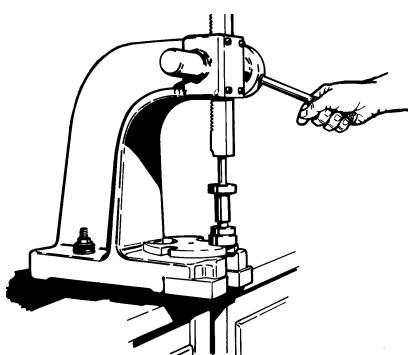

Figure 4-23
1. Using an arbor press, install the bearings on the shaft prior to installing the shaft into the pedestal. A steel "donut" with the proper inside diameter and outside diameter, refer to Chart 1, should be used between the arbor face plate and the lower bearing to insure proper installation and to prevent bearing damage. The bearings must seat against the shoulder for proper alignment. Refer to Figure 4-23. *Also refer to Alternate bearing installation procedures.